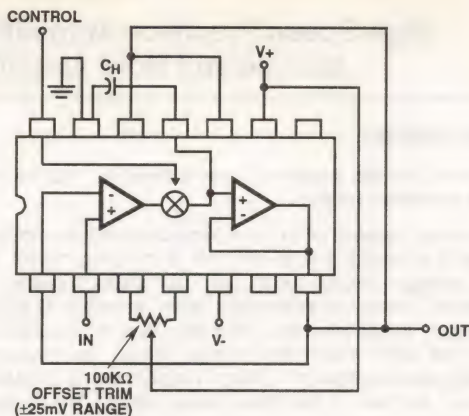

FIGURE 20. BASIC SAMPLE-AND-HOLD (TOP VIEW)
The offset voltage of the HA-2420 and HA-2425 may be adjusted using a 100k $\Omega$  trim pot, as shown in Figure 20. The recommended adjustment procedure is:
- Figure 20 shows a typical unity gain circuit, with Offset Zeroing. All of the other normal op amp feedback configurations may be used with the HA-2420/2425. The input amplifier may be used as a gated amplifier by utilizing Pin 11 as the output. This amplifier has excellent drive capabilities along with exceptionally low switch leakage.